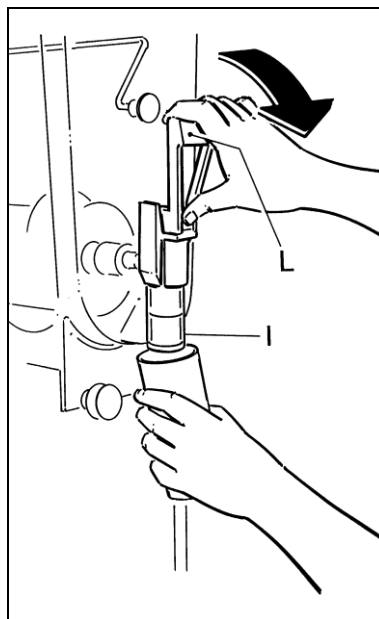

Fig. 20
a) To dispense the product, position the cup under the tap and pull the dispensing lever (see figure 20).